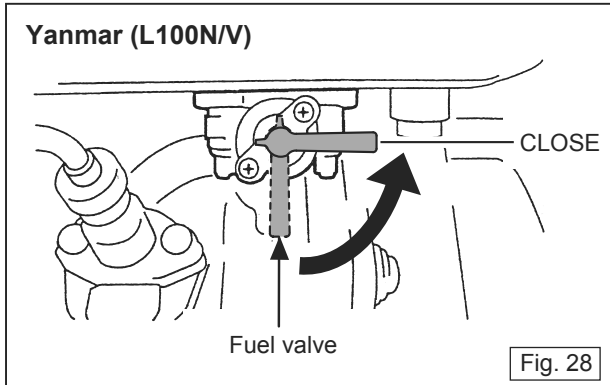

Fig. 28
4. After you stop the roller, close its fuel valve. (Fig. 28)